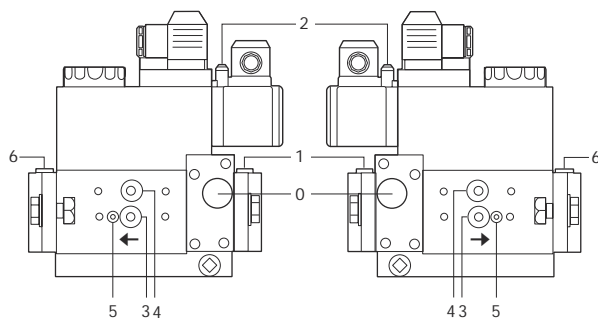
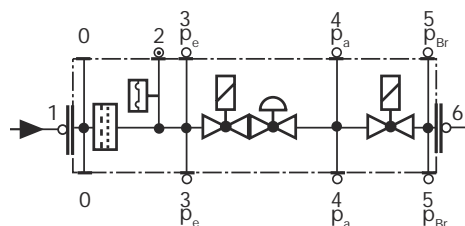

Fig. 55
Fig. 56
- Clean and examining the gas filter cartridge, if necessary replace it (Fig. 55 on).
- Change the filter if the pressure difference between pressure connection 1 and 3 (Fig. 55-Fig. 56) is $\Delta p > 10$ mbar.
- Change the filter if the pressure difference between pressure connection 1 and 3 (Fig. 55-Fig. 56) is twice as high compared to the last check.